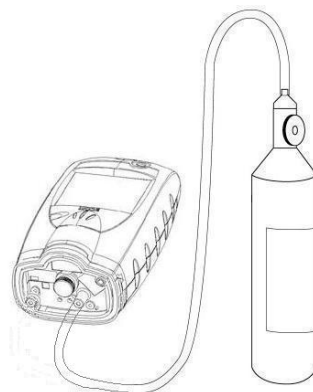

Figure 4.1 Bump Test / Span Calibration set up
4. Attach the calibration adapter and connect the calibration cylinder to the MultiPro as shown in figure 4.1. Flow gas to the sensors.
Apply calibration gas as shown above in figure 4.1. The readout will change to a numerical display almost immediately and will continue to display the current readings.